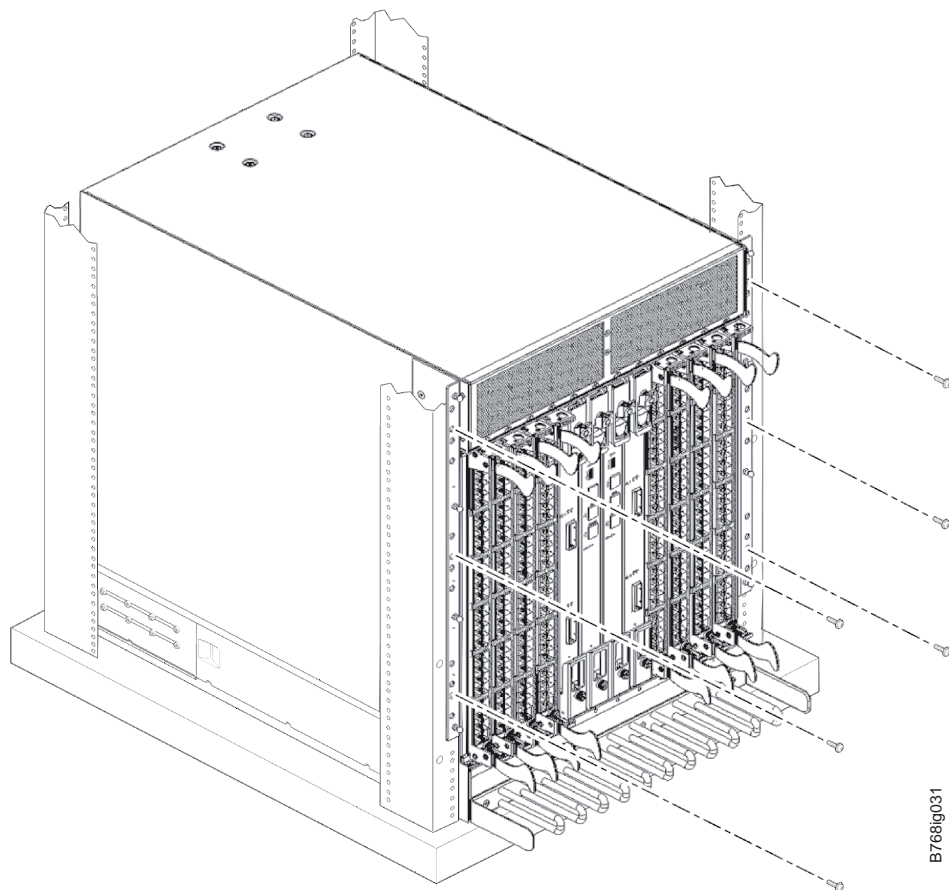

Figure 9. Attaching the port side of the chassis to the cabinet rails
20. Fasten the port side of the chassis to the cabinet rails. Use three 10–32 x 5/8-in. Phillips panhead screws with washers **C** on each side to attach to the clip nuts (**D**) or retainer nuts (**F**) installed on the rails earlier. Tighten the screws to a torque of 37 cm·kg (32 in·lb). See Figure 9 for the approximate location of the screws.
5. Remove the three 10-32 x 5/8 in. Phillips panhead screws with washers on each side. See Figure 9 on page 22 for the location of the screws.